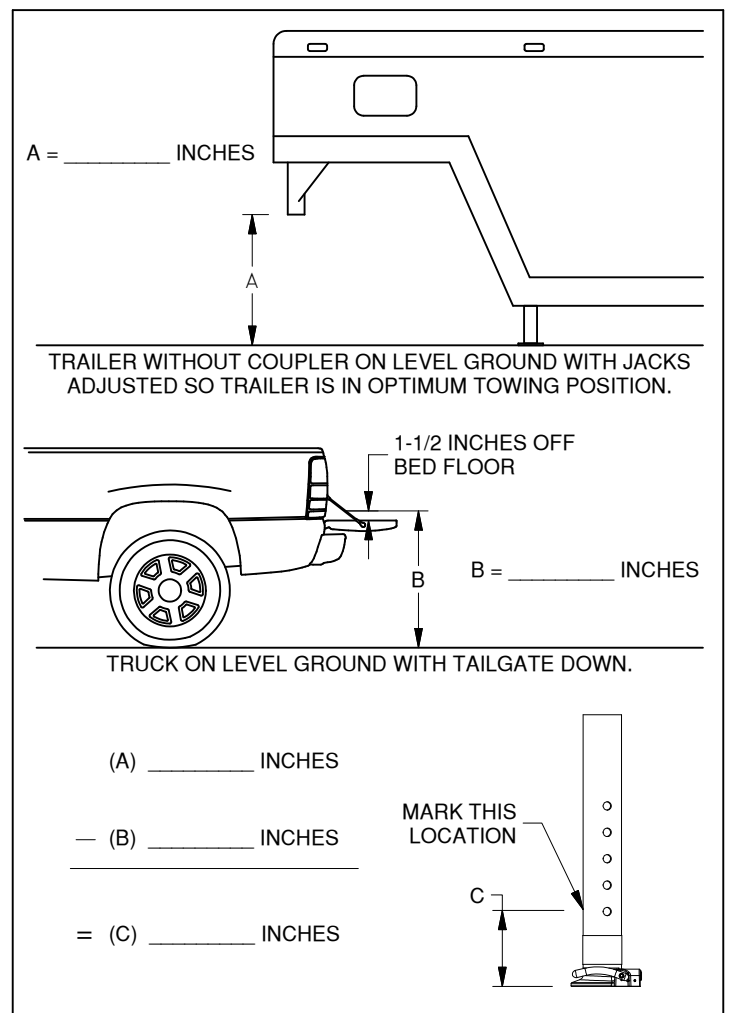

FIGURE A3: Coupler height determination.
2. With the trailer jacks adjusted so the trailer is in its optimum towing position, determine the distance between the bottom of the trailer sleeve and where the bottom of the coupler will be when coupled to the ball. See figure A3. Mark this position on the coupler.